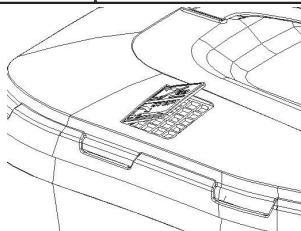

Fig. 3E
- The level indicator inflates if the catcher is not full during the moving. (Fig. 3E)